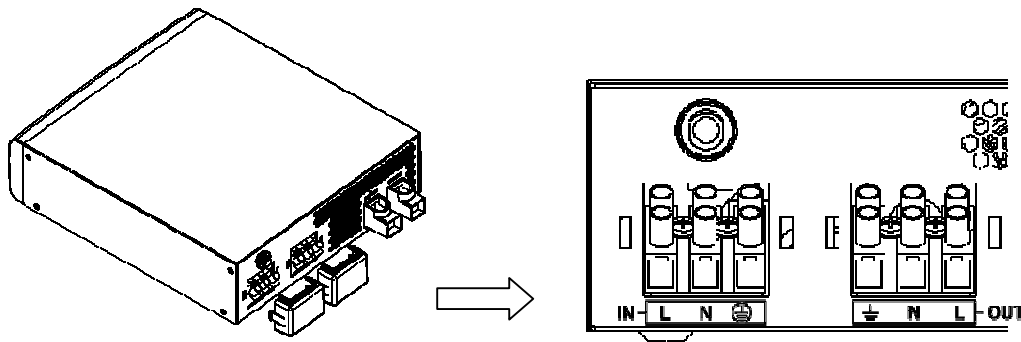

Figure 5 AC Cable Connect to unit
Figure 5 illustrates the proper method to connect the battery cables to the unit terminals.
Step 2: Following the wiring guide located in the AC input wiring compartment as figure 5, connect the GND (green/yellow), Line (brown), and neutral (blue) wires from the AC input (utility, generator, etc) to the terminal block.